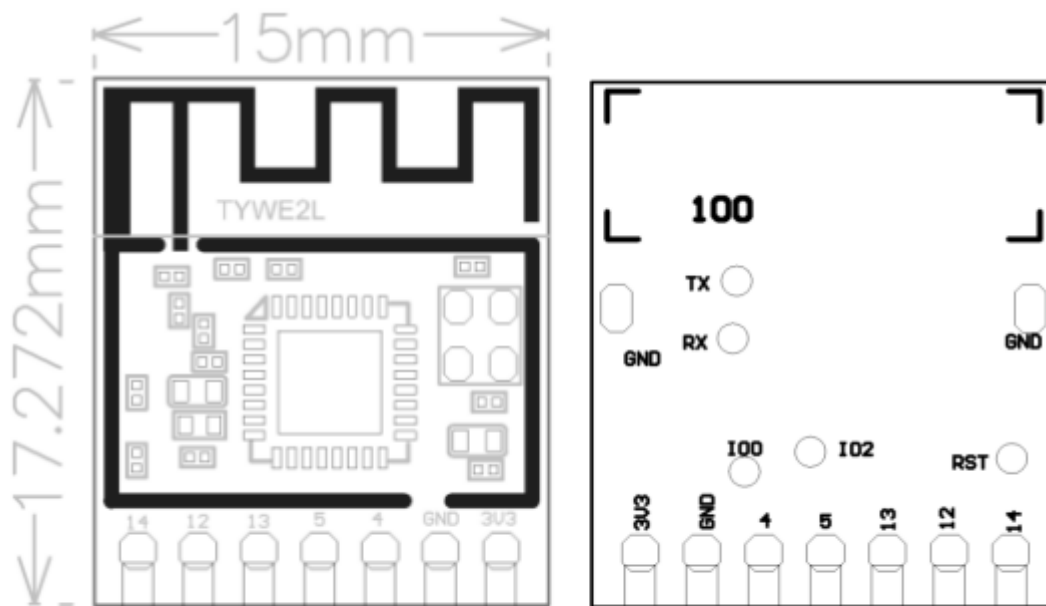

Figure 2 TYWE2L dimensions
TYWE2L dimensions: 3 mm (W) x 15 mm (L) x 17.3 mm (H) (see figure 2)